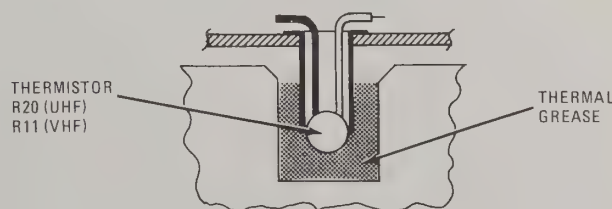

Figure 4-2. Placement of Thermistor
6.05 Before replacing Thermistor A1R20 (UHF) or A1R11 (VHF) make sure that an adequate amount of thermal grease has been placed in the well. (See figure 4-2.)